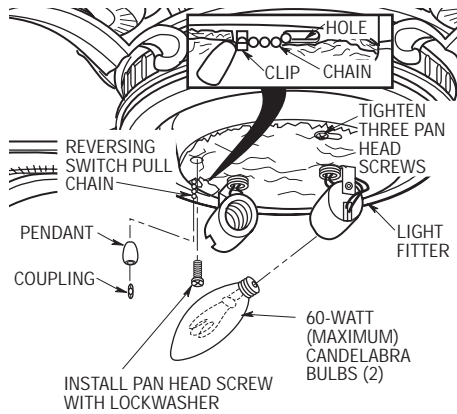

Figure 12
- 15. Pass the reversing switch pull chain through the hole in the light fitter (Figure 12). Position the three keyhole slots in the light fitter over the three pan head screws in the switch housing flange and turn the light fitter clockwise.
- 16. Tighten the three pan head screws (Figure 12). Reinstall the pan head screw with lockwasher (previously removed) in the remaining hole to secure the light fitter.
- 17. Slip the reversing switch chain through the pendant (supplied), then secure the pendant by snapping the coupling onto the end of the chain (Figure 12). Hook the chain in the clip as shown in Figure 12 insert.
- 18. Screw in two 60-watt (maximum) candelabra bulbs in the light fitter sockets (Figure 12). Bulbs not supplied.
- 6. If airflow is desired in the opposite direction, turn the fan off and wait for the blades to stop turning. Turn the lower glass counterclockwise and remove the glass from the light fitter (Figure 12). Remove the pull chain from the clip on the light fitter and pull on the pendant until the reversing switch clicks. Replace the pull chain in the clip, then replace the lower glass on the light fitter, and turn the glass clockwise until the glass stops turning. Turn the fan on again; the blades will turn in the opposite direction and reverse the airflow.